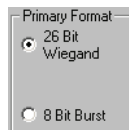

Figure 14-7: Enroll Cards - Primary Format Field
- In the “Primary Format” field, click on the radio button that corresponds to the type of format used for Primary ID (see Figure 14-7).